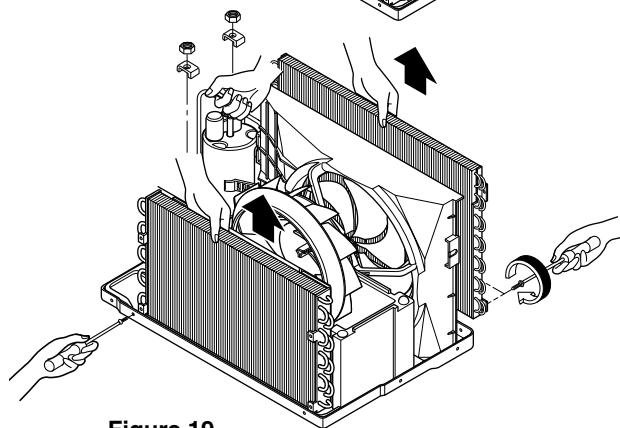

Figure 19
9. Remove 1 screw that secure the evaporator to the base pan. (See Figure 19)